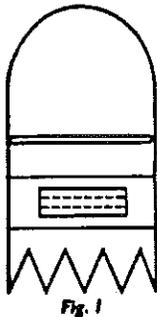

Fig. 1
3. The pen will BEEP and display a double line. (see Fig. 1)